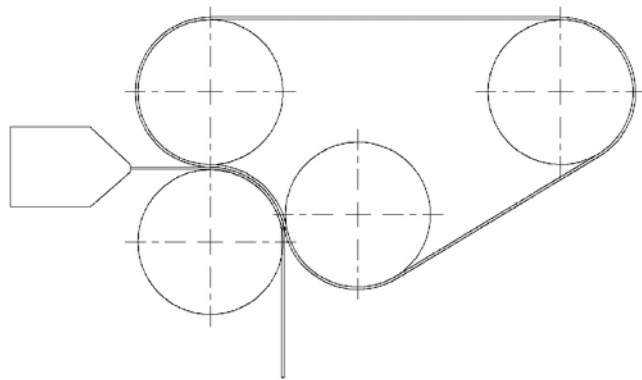

Figure 36.22 (Courtesy of Borealis AG)
- Steel beld technology (Figure 36.22)